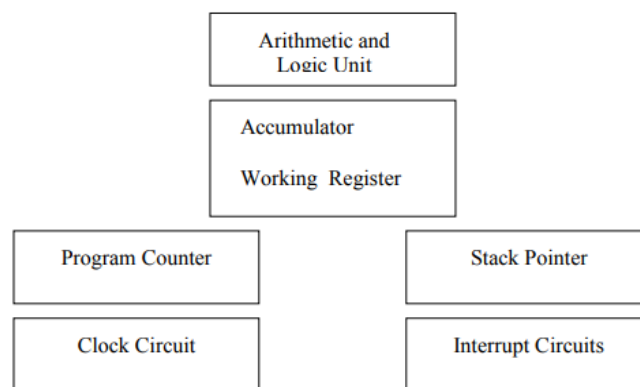

Fig.1.1: Block diagram of microprocessor
2. Block diagram of a Microprocessor CPU which contains ALU; Program counter (PC), a stack pointer (SP) ,some working registers , a clock timing circuit and interrupt circuit s is shown in the following Fig.1.1